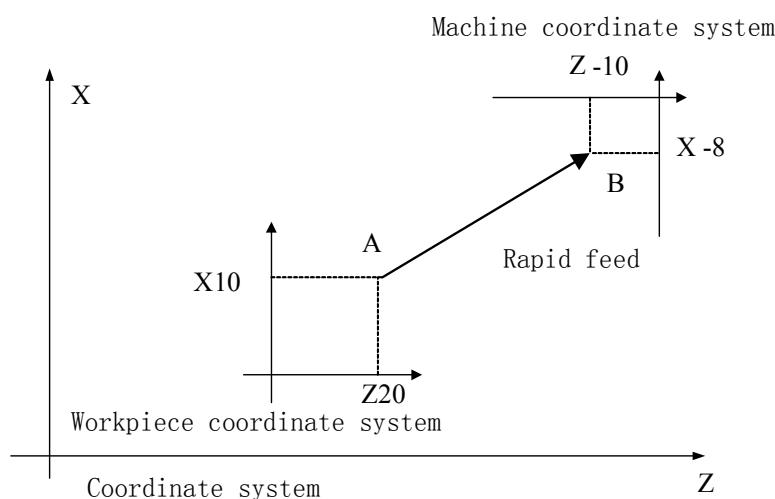

Fig. 2-21
**Command function:** One of G54~G59 is specified, one of workpiece coordinate system 1~6 can be selected. After the workpiece coordinate system is specified, the specified point in the block is in the specified workpiece till a new workpiece coordinate system is created as Fig. 2-21. The tool positions X60.0, Z20.0